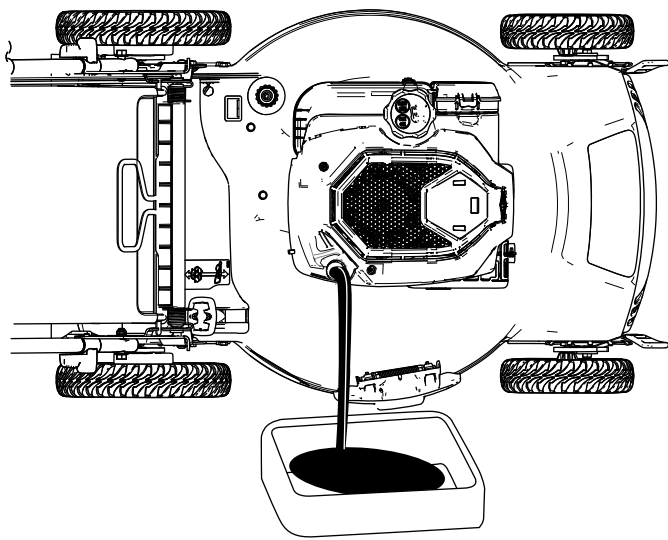

Figure 26
- 4. Tip the machine onto its side (so that the air filter is up) to drain the used oil from the oil-fill tube (Figure 26).